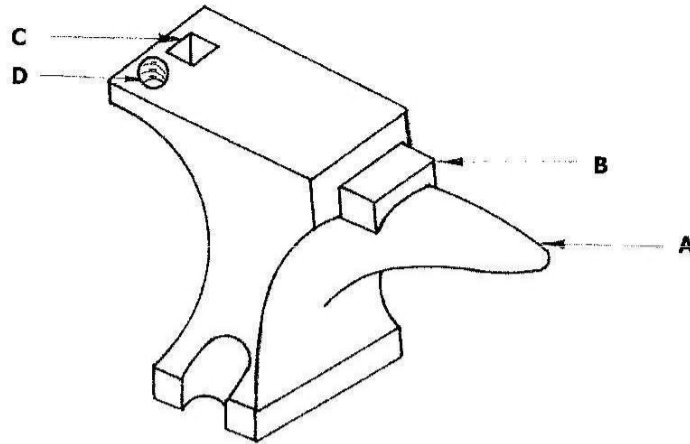

Figure 4 (a)
- 5 (a) The following relate to the Anvil in **Figure 4(a)**.